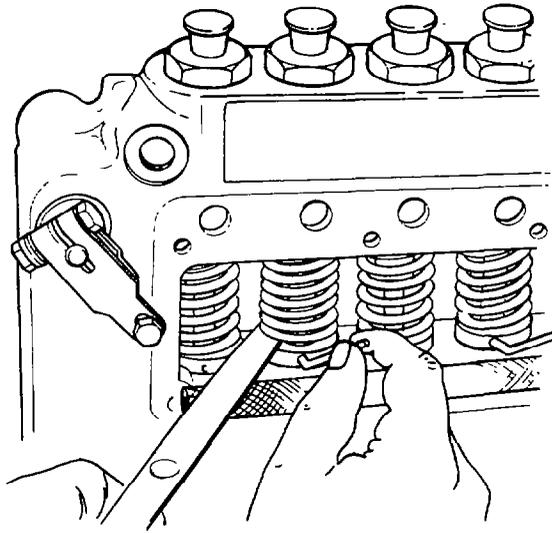

Fig. 110 — Removing Service Pin
- as. Use tool TSE 761 to raise the spring seat (item 24) and compress the spring (item 25). Remove the service pin TSE 76156B, then slowly release the tool until the roller (item 19) contacts the cam lobe as shown in fig. 110.